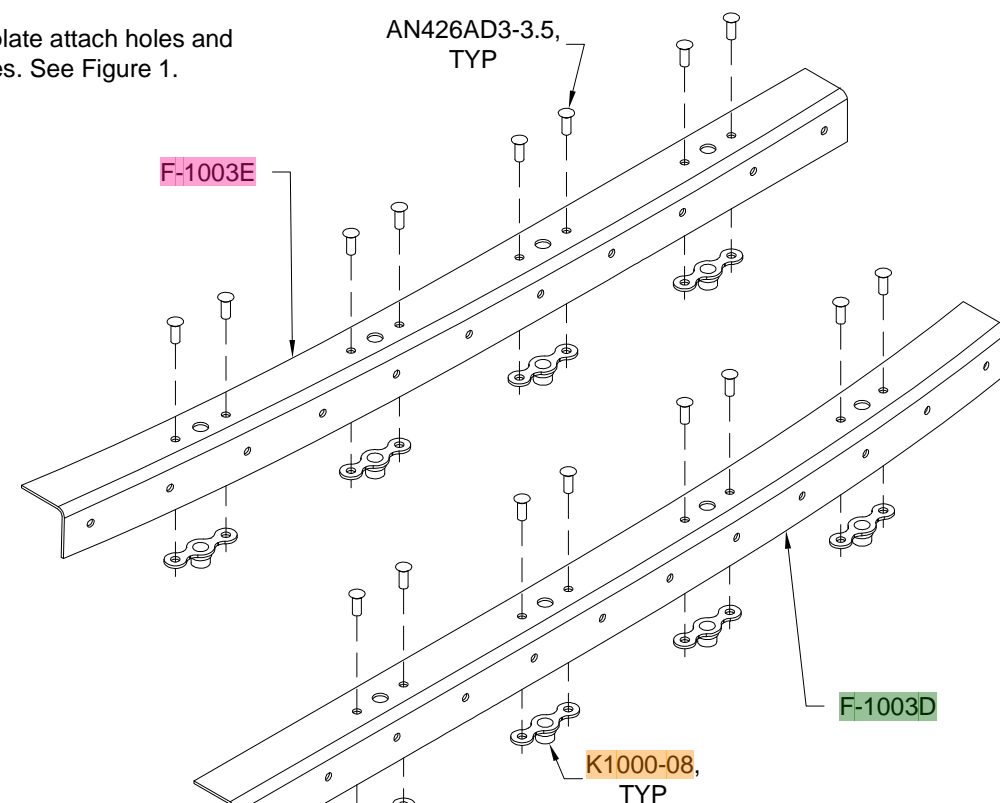

FIGURE 1:
Step 5: Remove the **F-1003D** and **F-1003E** Inst Panel Attach Flanges. Using a nutplate as a drill guide, match-drill #40 two nutplate attach holes for each screw hole. See Figure 1.
Dimple the nutplate attach holes and skin attach holes. See Figure 1.